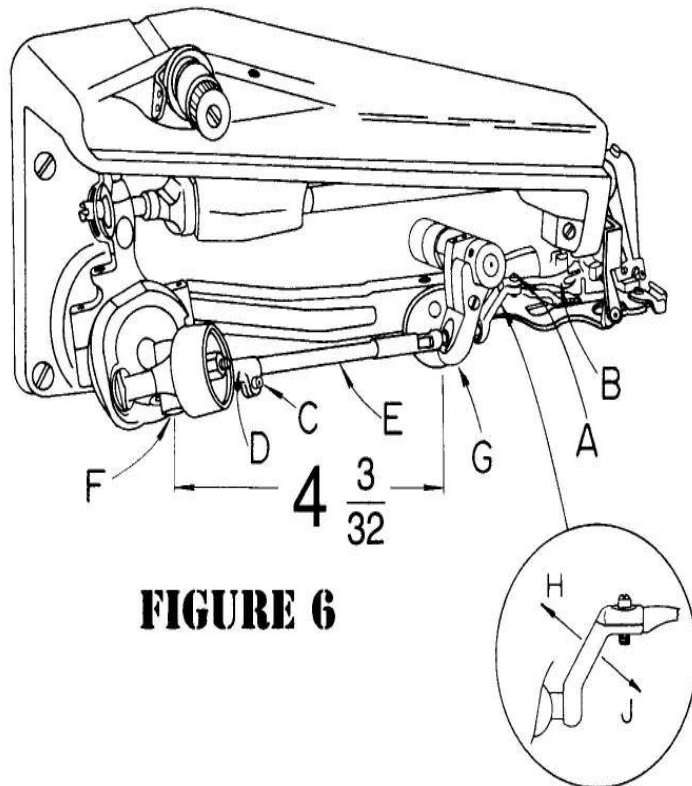

FIGURE 6
1. Should it become necessary to replace the looper (*item "B" in Figure 6*), loosen the looper clamp screw (*item "A" in Figure 6*) and remove the old looper. Because of the precise fit of the looper in the looper rod it may be necessary to exert a moderate amount of force to pull the looper out. Insert the new looper into the end of the rod as far as it will go before bottoming on the looper shoulder.
3. To adjust the looper so that the timing checks out as noted in paragraph 2, it may be rotated within its clamp by a limited amount. This adjustment should be made with the looper clamp screw (**item "A" in Figure 6**) loosened, and the looper bottomed against its shoulder. Do not move the looper in or out, and do not attempt to force the looper to turn beyond the limited amount of travel available.
4. If the adjustment described in paragraph 3 is insufficient to provide the correct timing, it will be necessary to turn the looper rod (**item "E" in Figure 6**) itself. This may be accomplished by loosening with looper rod clamp screw (**item "C" in Figure 6**). The rod is then free to turn in the looper rod fork (**item "D" in Figure 6**). It will normally be necessary to make only a very small adjustment in order to get the looper into the correct rotational position for proper timing. If, for any reason, the rod has been removed or the basic setting of the looper rod has been disturbed by a large amount, it may be reset by noting that the distance from the center of the looper rod fork pin (**item "F" in Figure 6**) to the rear face of the looper rod ball (**item "G" in Figure 6**) is normally $4 \frac{3}{32}$ inches (104mm) (**refer to Figure 6**). If the rod is set to this dimension then only minor adjustment will be required to bring the looper into the correct timing position. Note that this dimension is merely a guide to assist in setting a rod and variations may be expected from machine to machine.
For adjustment, refer to insert illustration (**Figure 6**). To widen looper sweep, **flex or bend looper crank** in direction of arrow "H".